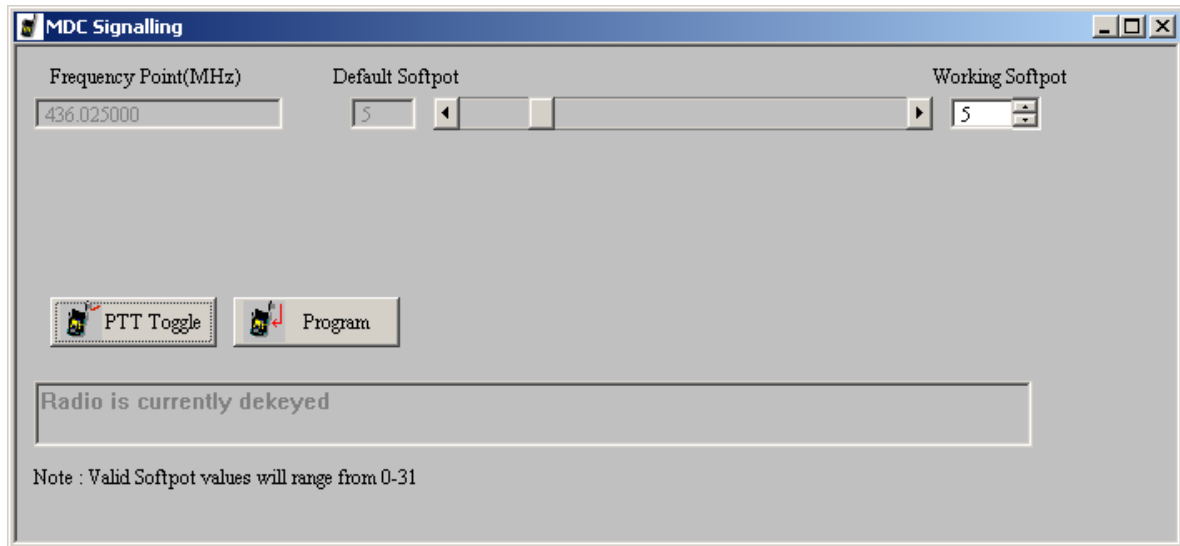

Figure 4-8. MDC1200 Deviation Tuning Window
1. Under the **Tx Align**, select **MDC1200 Signaling** (Figure 4-8).